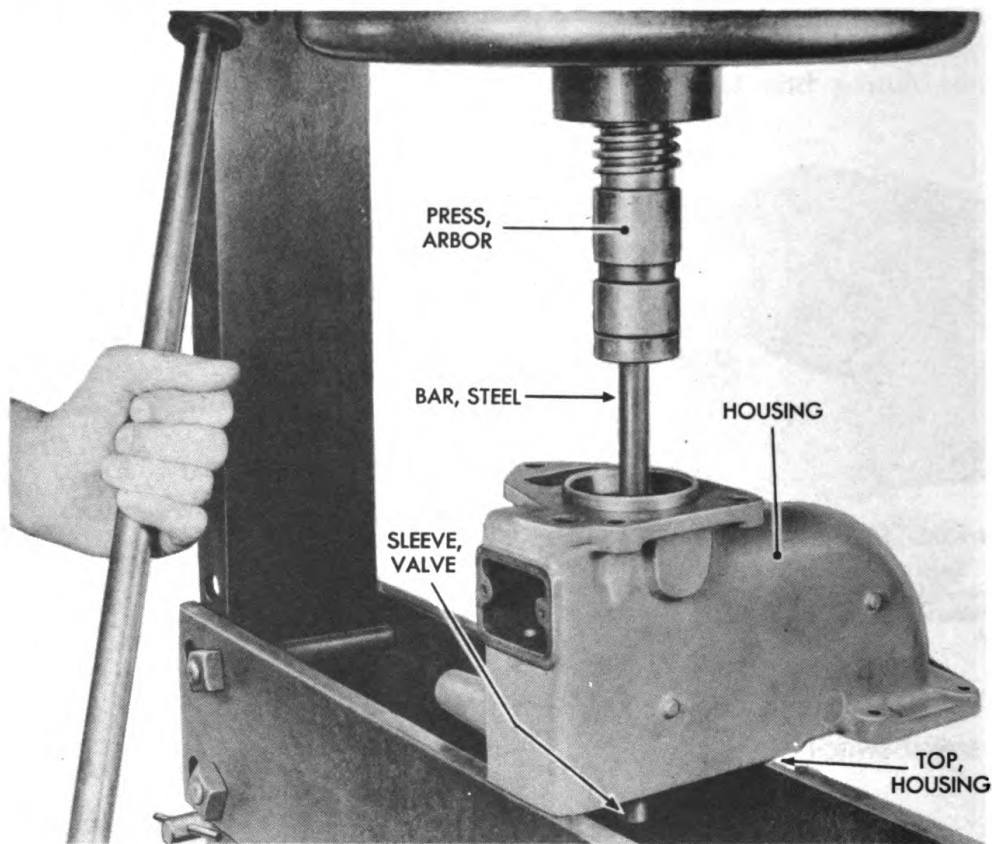

Figure 148—Valve Sleeve Removal
(15) REMOVE VALVE SLEEVE (fig. 148).